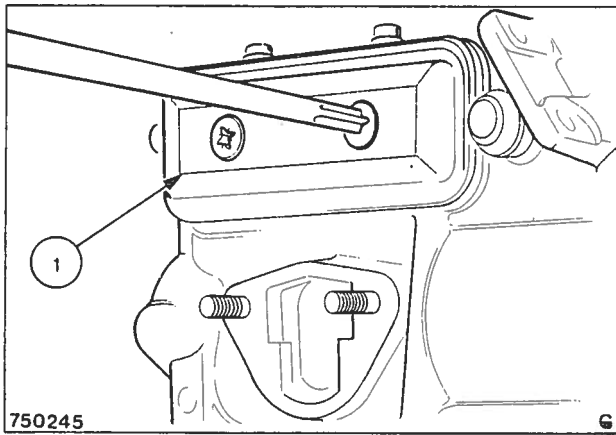

Fig. 11 Removing the inspection cover
6. Unscrew the bolts and remove the inspection cover, Fig. 11. Remove the screws locating the cover retainer plates and rotate the retainers through 90°, above the axes of the tapped holes to remove them.